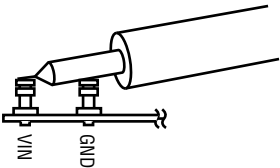

Figure 2. Measuring Input or Output Ripple
NOTE: When measuring the input or output voltage ripple, care must be taken to avoid a long ground lead on the oscilloscope probe. Measure the input or output voltage ripple by touching the probe tip directly across the V_{IN} or V_{OUT} and GND terminals. See the proper scope probe technique in Figure 2.
5. Set the load current of both outputs to 3A and the input voltage to 12V, then measure each output ripple voltage (refer to Figure 2 for the proper measurement technique). Each should measure less than 20mVAC. Also, observe the voltage waveform at either switch node (Pins 23 and 24 for channel 1, and Pins 13 and 14 for channel 2) of each regulator. Both switch node waveforms should be rectangular in shape, and 180° out-of-phase with each other. The switching frequencies should be between 800kHz and 1.2MHz ($T = 1.25\mu s$ and $0.833\mu s$).